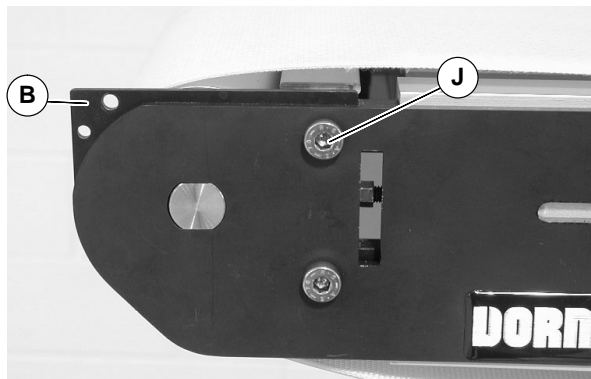

Figure 6
- Replace with new spacer plates (B of Figure 6). Insert screw (J) hand tighten.